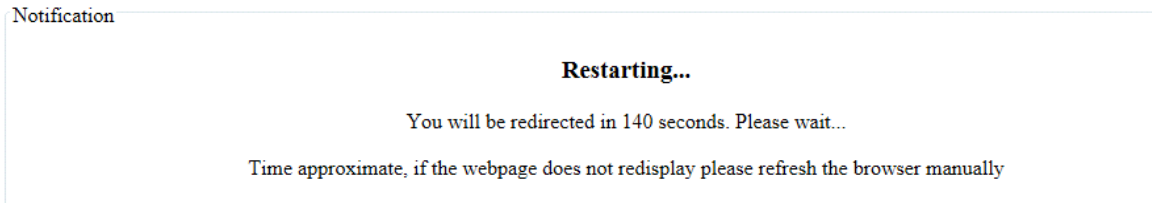

Figure 29 Printer Reboot Notification
11. Wait until the printer finishes firmware upgrade and restarts (Figure 29).